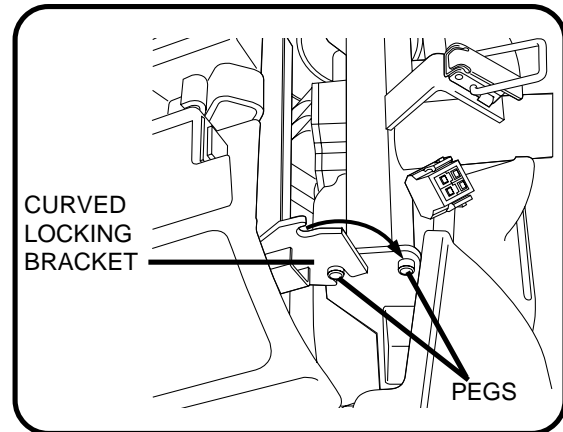

Figure 17. Frame Lockup
2. Lift the front section up until the lower pegs are no longer in the curved locking brackets. See figure 17.